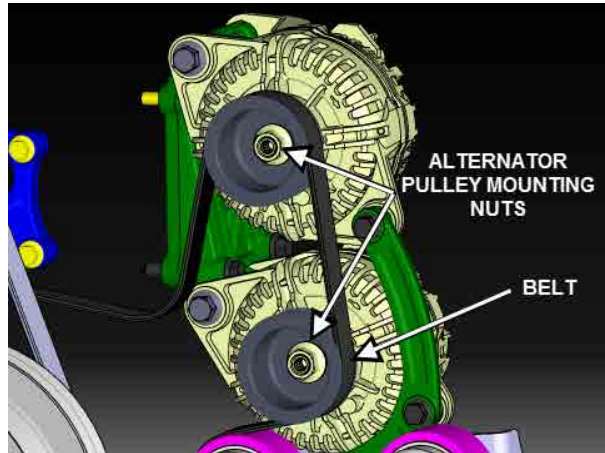

FIGURE 2
2. Remove the alternator belt (figure 2).
3. Unscrew the alternator pulley mounting nut (figure 2).
4. Remove the alternator pulley (2 pulleys) (figure 2).